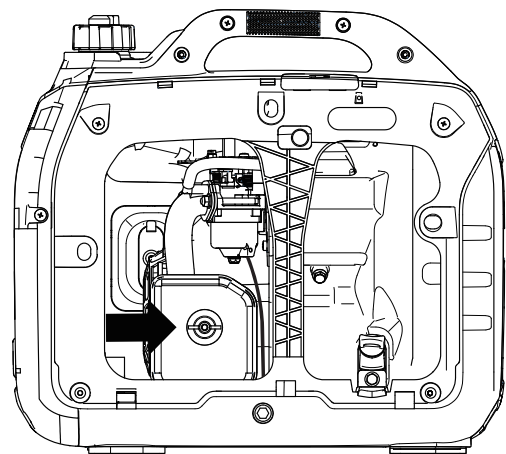

Figure 14: Unscrew air cleaner cover
3. Unscrew the air cleaner cover and tip the cover down (see Figure 14)